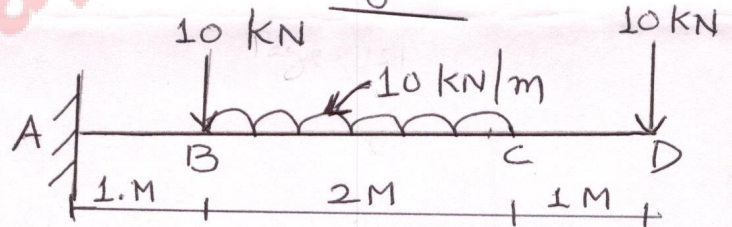

Fig. 6
- (d) Draw shear force and bending diagram for the beam as shown in fig.6 ૦૪
(1) Rectangular (2). Triangle (3). I section (4). T section